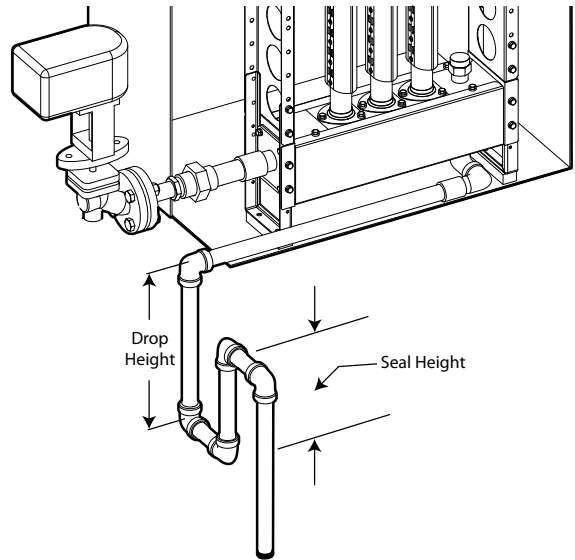

Fig. 7.e
A threaded connection (3/4" male NPT for North American markets and 3/4" male Gas for other markets) is provided for the condensate drains on the headers. If P-traps are used on the drains, as shown in Fig.7.e, the seal height should be sufficient such that the water column creates a pressure at least 500 Pa (50 mm or 2"H2O) greater than the static pressure in the header (PS). NOTE: A minimum seal height of 150 mm (6") is recommended for most installations where the condensate trap drains into a sump inside the duct.
Note: the fittings and pipe for the condensate drain shown in Fig.7.c are not included with the ultimateSAM distributor.